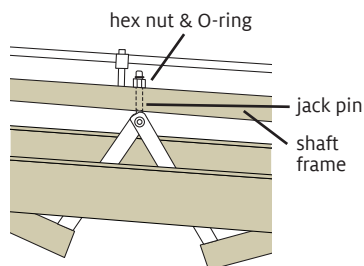

FIGURE 7: JACK PIN ATTACHMENT
15. Remove the shafts from the loom by removing the rubber O-rings and unscrewing the small hex nuts from the jack pins (Figure 7). Pull the shaft straight up and out of the loom. When you put the shaft back in the loom, be sure to insert the jack pin back into the hole and secure it with the hex nut. Replacing the rubber O-ring is optional.